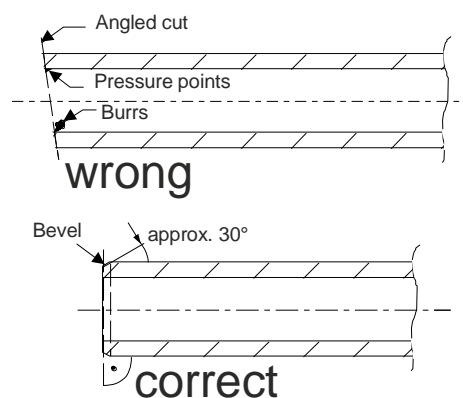

Fig. 36 Cutting the tubes
- The tubes must be cut to size using a pipe cutter. In doing so, ensure that the cut is at a right-angle to the tube axis. Remove any projecting burrs, Fig. 36.
- The ends of the individual tube pieces are to be bevelled slightly using a suitable tool, e.g. slightly bevel with a pipe scraper, Fig. 36.